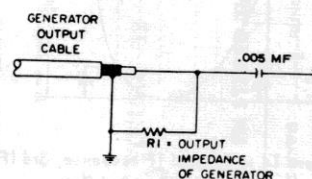

Figure 12 - Generator Cable Termination
Generators - Except where otherwise noted, all signal generating equipment should be terminated as shown in Figure 12. Connect the signal cable ground near the ground of the stage where the signal is injected. Adjust the CW generator output so that: (1) When the VTVM is being used its reading remains near the -1 volt point. (2) When the oscilloscope is being used the marker frequencies do not distort the response curve.